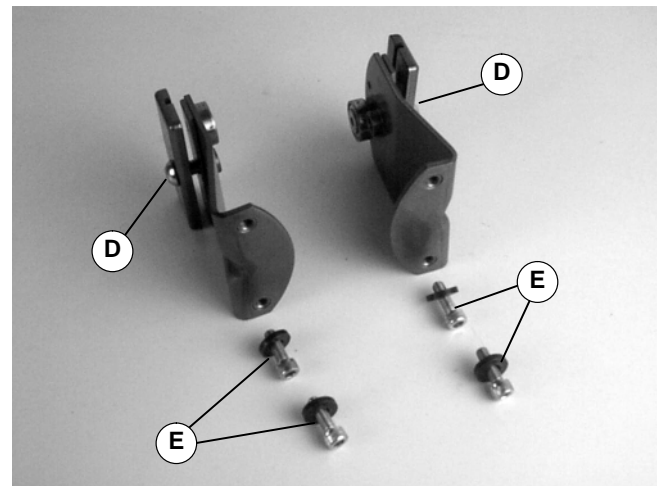

Figure 7
2. Loosen (but do not remove) screws (D) and remove screws and washers (E) (Figure 7).